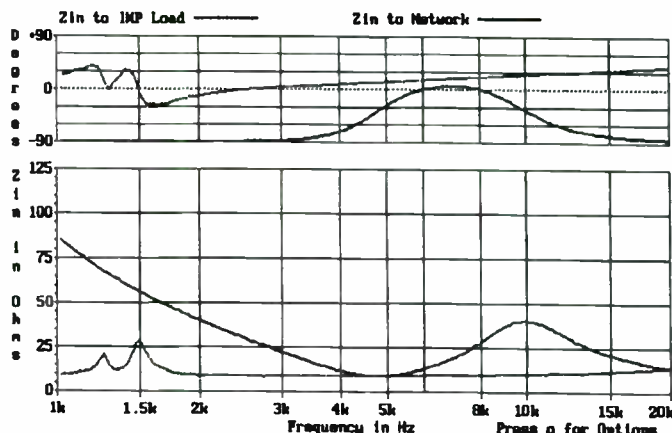

FIGURE 14: IMPPCoEq Z_{IN} plot for tweeter 2 with equalization.
produced a crossover (CO) around 4.5kHz and a response flat from there to about 12kHz. Figure 14 shows the resulting input impedance with the network, which looks acceptable.